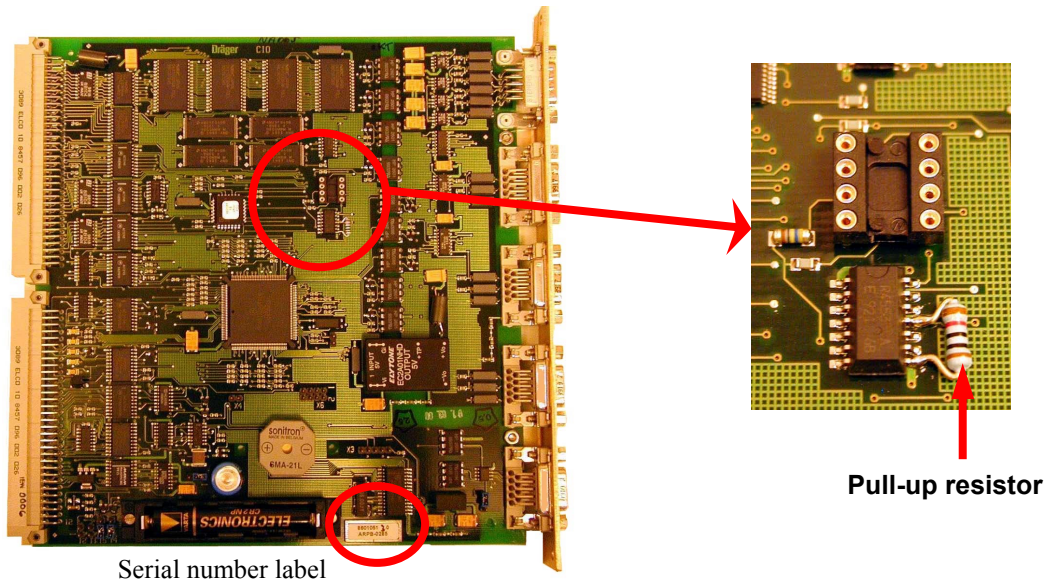

Figure 2- Pull-up Resistor Location
4. Examine the area shown in **Figure 2**, on the PCB CIO. If there is a pull-up resistor present, remove lithium battery and continue with Step 5. If there is no pull-up resistor, no further action is necessary. Replace battery as necessary according to documented replacement interval, if necessary.
8. Locate the CIO PCB serial number label. Change revision of PCB from 3.0 to 4.0 with permanent pen. (See Figure 2)